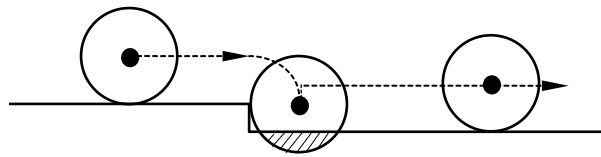

Fig 3-38 Over-Cutting (Shaded area)
6. When cutting a stepwise work-piece with a step value smaller than the tool radius, over-cutting many occur as shown in Figure 3-38